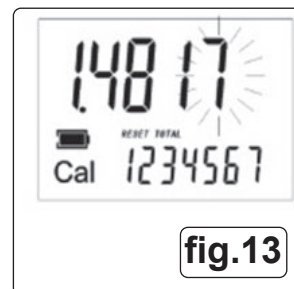

fig.13
- 5.4.4. Press RESET to set digit values (from right to left) (fig.13).